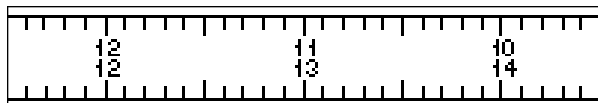

Fig.36: Section of Right Ascension setting circle.
- **Right Ascension Setting Circle:** Since celestial objects move in R.A., the R.A. setting circle (Fig. 36) must be reset as each object is located during an observing session. The R.A. pointer is located on the drive base 90° *counterclockwise* from the telescope's computer control panel (11, Fig. 1) immediately under the R.A. circle.